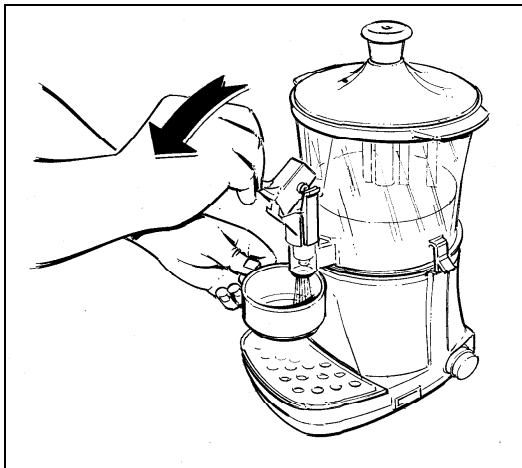

Fig. 6
- Once the desired product temperature is reached, in order to dispense product, place a cup under the tap and lower the lever as shown in figure 6.